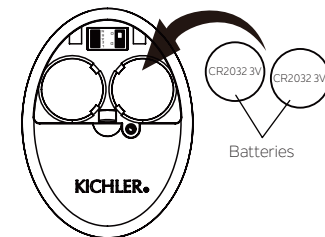

Fig. 19
Step 3. To make fan operational, install two 3V CR2032 batteries (included). (Fig. 19)